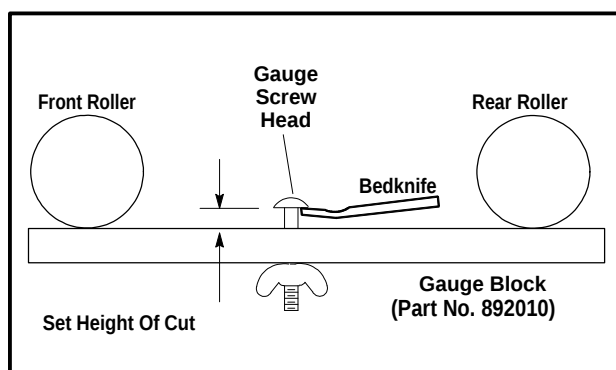

Figure 18
1. Set the height of cut on the gauge block (Part No. 892010) by turning the wingnut until the distance between the bottom of the screw head and the top of the gauge block equals the desired height of cut (See Fig. 18).
3. Hold the gauge block across the bottom of both the front and rear rollers near the roller adjustment bracket and adjust the front roller until the cutting edge of the bedknife comes up to touch the bottom of the gauge screw head (See Fig. 18).